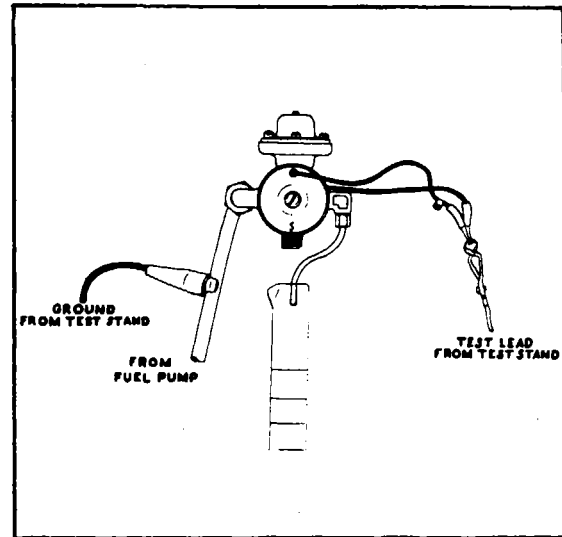

Figure 13-20. High Heat Fuel Flow Check
2. After allowing fuel to drip for a few seconds, place the glass graduate under the standpipe openings. (Refer to Figure 13-20.)